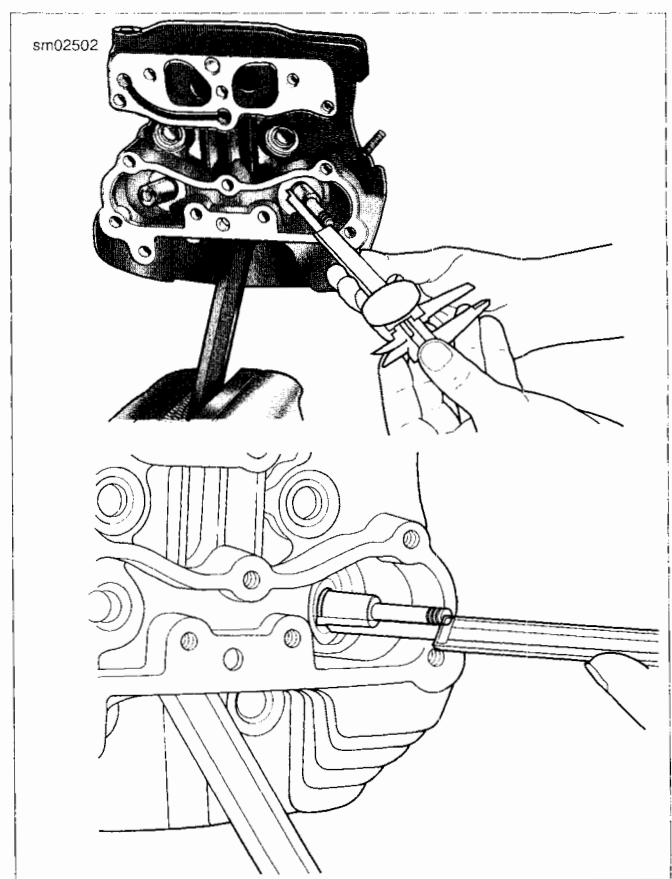

Figure 3-106. Checking Valve Stem Protrusion
4. See Figure 3-106. Measure valve stem protrusion. Seat wear causes the valve stem protrusion to change.